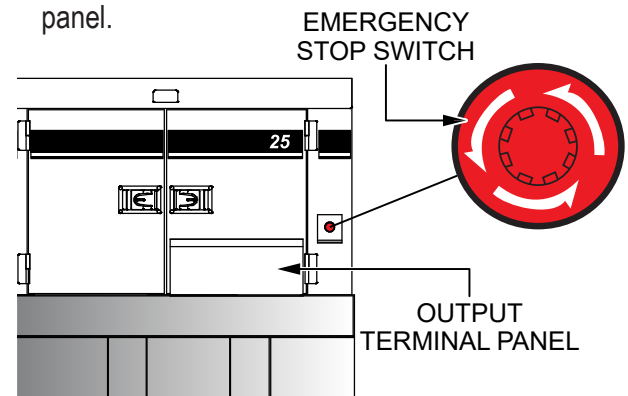

Figure 61. Emergency Stop Switch
1. To stop the engine in the event of an emergency, press the **Emergency Stop switch** (Figure 61), located on the side of the generator next to the output terminal panel.